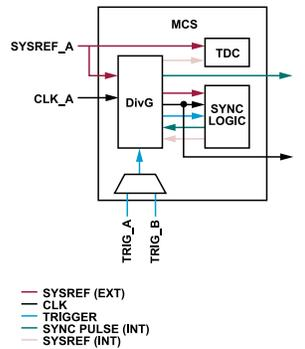

Figure 41. MCS Block Diagram
As illustrated in Figure 30 figure, there exists an MCS block for each of the clocking regions to support single (center region) or dual (A-side and B-side) clock modes. Figure 41 shows the elements of the MCS block which contains:
- ▶ Note that divG retimes each of the signals going through it in Figure 41